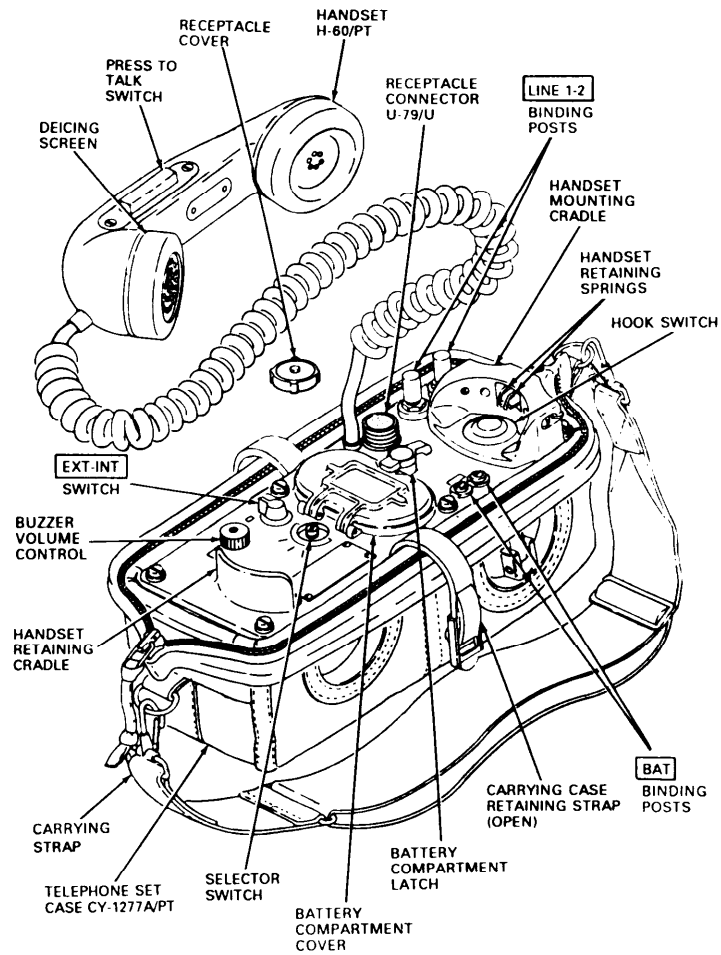

Figure 1-1. Telephone Set TA-312/PT Case Open, and Handset H-60/PT, Removed From Cradle.
1-10. Description (figs. 1-1 and 1-2)
a. *Use of TA-312/PT as a Desk Set.* Unbuckle the carrying case retaining strap (fig. 1-1), and remove the panel and housing assembly from the carrying case. Store the carrying case for later use. Place the panel and housing assembly in a convenient location on the desk.
3. Place the TA-312/PT against the support with the LINE 1-2 binding posts (fig. 1-1) at the top.